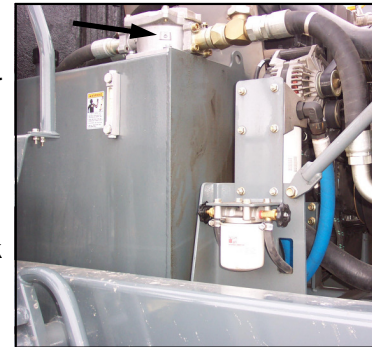

FIG 91-2
**RETURN FILTER**- Remove and install a new 10 micron rated return filter (fig. 91-2) at the end of the first 50 hours of use, subsequently replace the filter every 250 hours, or once a year, whichever comes first.